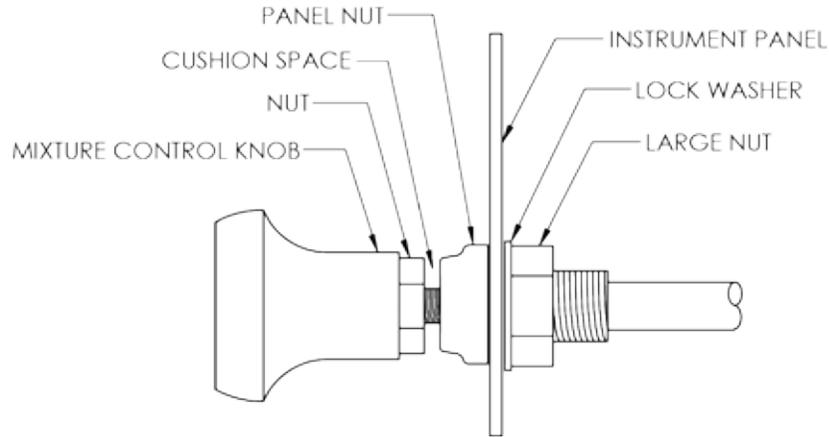

Figure 9 – Mounting of the Mixture Control at the Instrument Panel
- (a) The control cable rod pivots the mixture control lever on the carburetor. The rod is held tight by the mixture swivel fitting (refer to Figure 9).